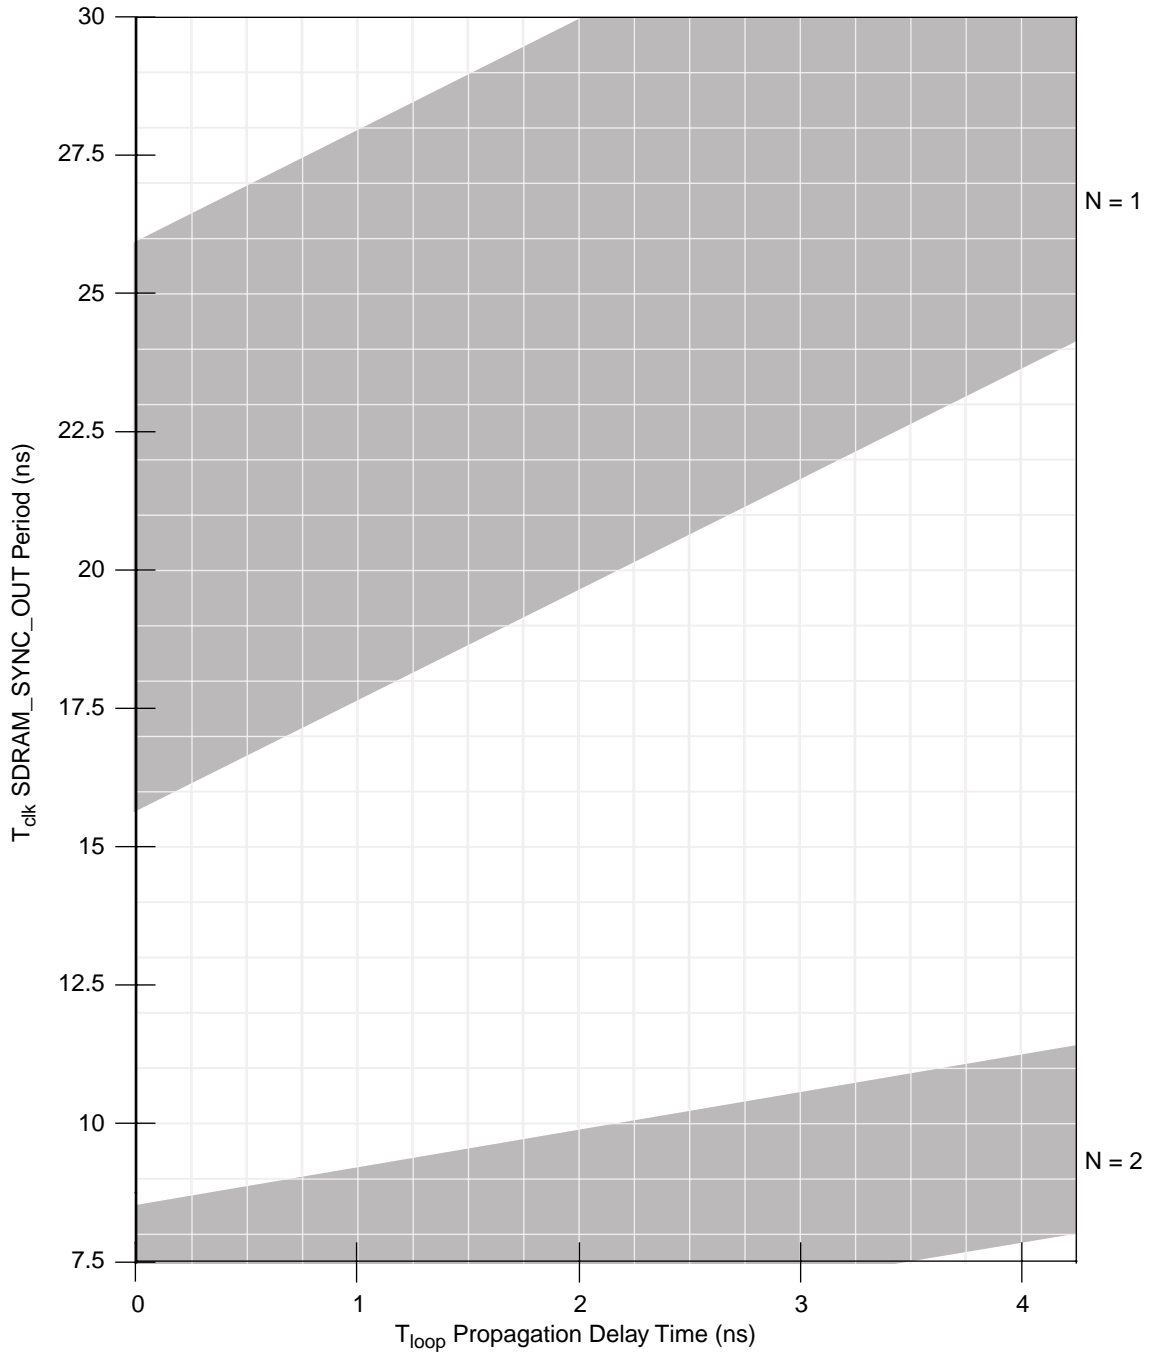
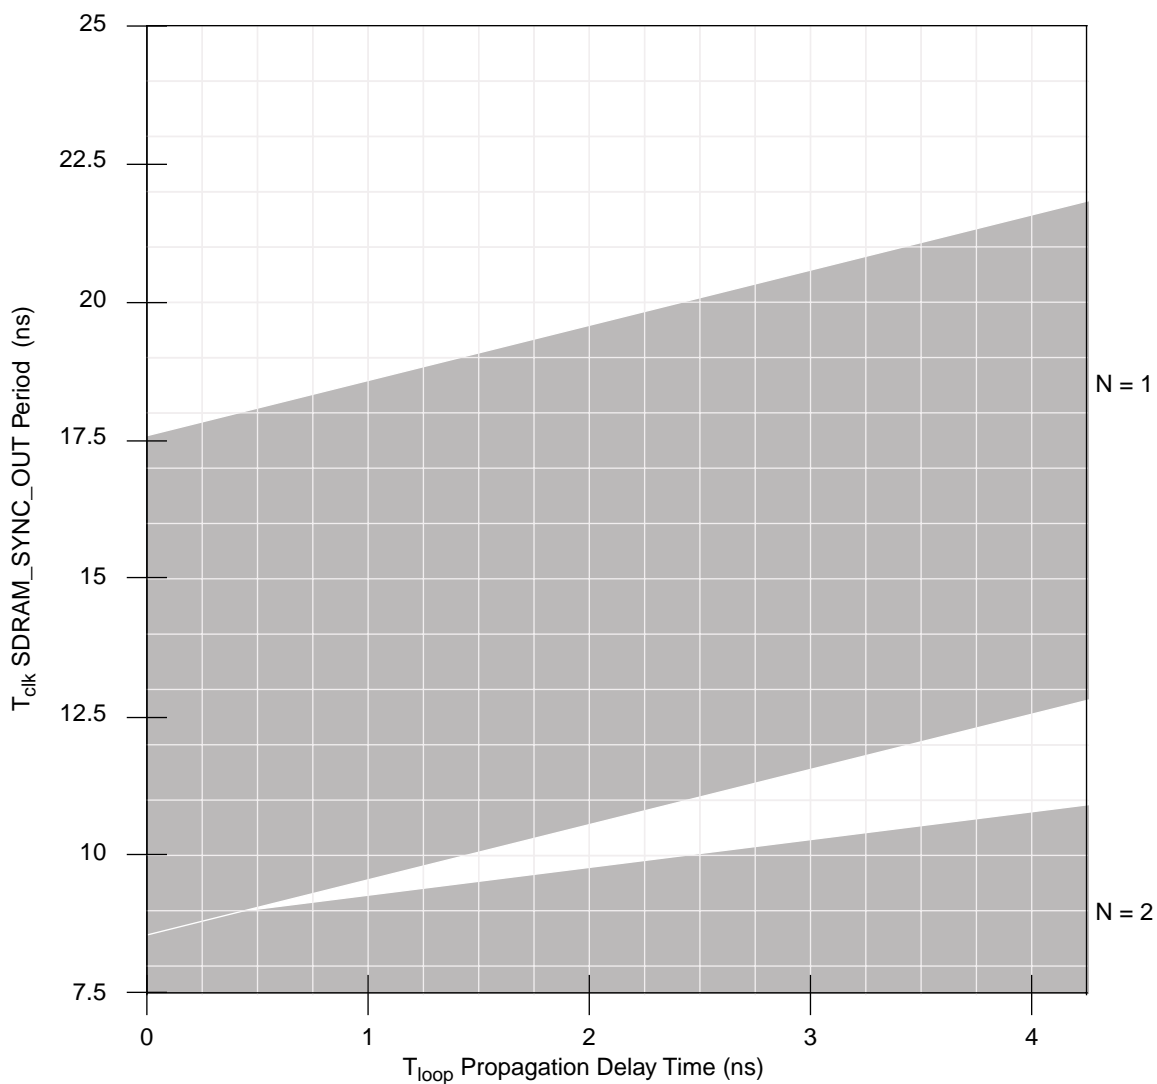

Figure 5. DLL Locking Range Loop Delay vs. Frequency of Operation for DLL_Extend=1 and Normal Tap Delay
Figure 8. DLL Locking Range Loop Delay vs. Frequency of Operation for DLL_Extend=0 and Max Tap Delay
- DLL_EXTEND is bit 7 of the PMC2 register <72>. N is a non-zero integer (see Figures 5 through 8). T_{clk} is the period of one SDRAM_SYNC_OUT clock cycle in ns. T_{loop} is the propagation delay of the DLL synchronization feedback loop (PC board runner) from SDRAM_SYNC_OUT to SDRAM_SYNC_IN in ns; 6.25 inches of loop length (unloaded PC board runner) corresponds to approximately 1 ns of delay. $T_{dp(max)}$ and $T_{dp(min)}$ are dependent on tap delay. See Table 9 for values of $T_{dp(max)}$ and $T_{dp(min)}$. See Figure 5 through Figure 8 for DLL locking ranges. Refer to Motorola Application Note AN2164, *MPC8245/MPC8241 Memory Clock Design Guidelines*, for more details on memory clock design and an explanation of how T_{dp} is defined.
Figure 5 through Figure 8 show the DLL locking range loop delay vs. frequency of operation. These graphs define the areas of DLL locking for various modes. The grey areas represent where the DLL will lock.
- T_{os} represents a timing adjustment for SDRAM_SYNC_IN with respect to *sys_logic_clk*. Due to the internal delay present on the SDRAM_SYNC_IN signal with respect to the *sys_logic_clk* inputs to the DLL, the resulting SDRAM clocks become offset by the delay amount. The feedback trace length of SDRAM_SYNC_OUT to SDRAM_SYNC_IN must be shortened by this amount relative to the SDRAM clock output trace lengths to maintain phase-alignment of the memory clocks with respect to *sys_logic_clk*. Note that the DLL locking range graphs of Figure 5 through Figure 8 compensate for T_{os} and there is no additional requirement to shorten T_{loop} by the duration of T_{os} . Refer to Motorola Application Note AN2164, *MPC8245/MPC8241 Memory Clock Design Guidelines*, for more details on accommodating for the problem of T_{os} and trace measurements in general.